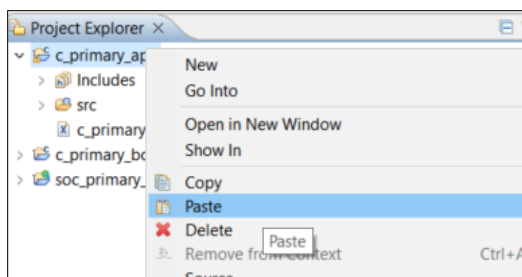

Figure 7.38. Paste in Bare-metal Application C Project
5. Paste it in your main `c_primary_app` project as shown in Figure 7.38.